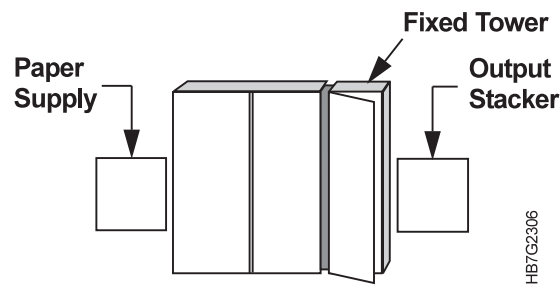

Figure 277. Right Side View of the InfoColor 70
- 3 Open the fixed tower door on the right side of the machine, as shown in Figure 277.